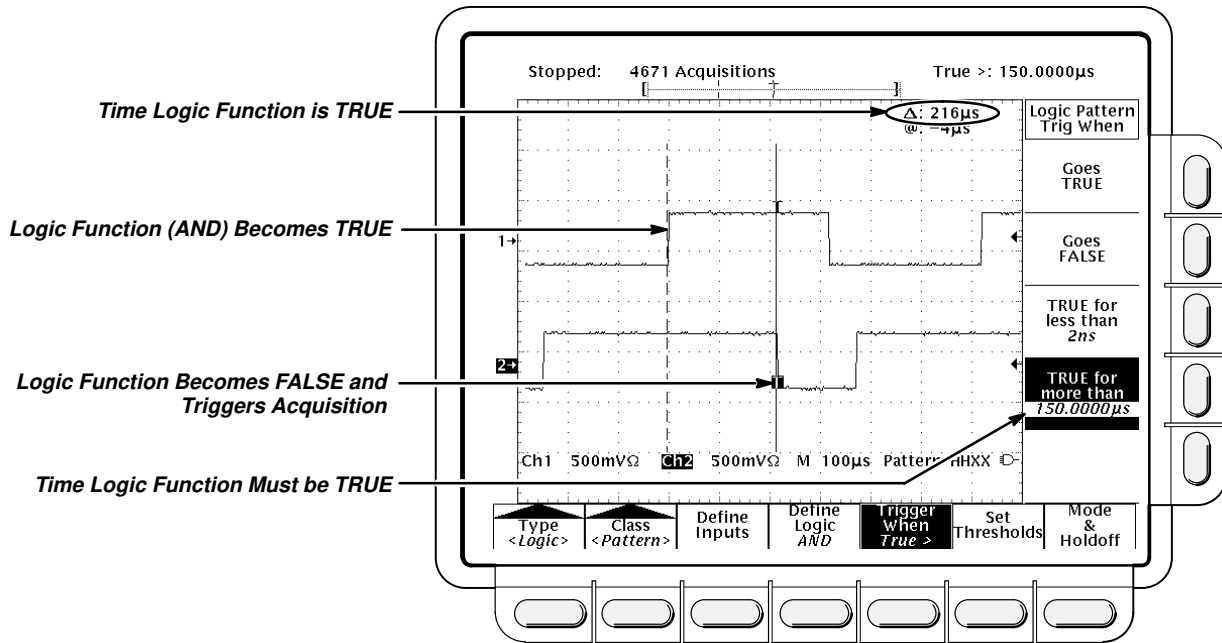

Figure 3-28: Logic Trigger Menu—Time Qualified TRUE
Note the position of the trigger indicator in Figure 3-28. Triggering occurs at the point the logic function you specify is determined to be true within the time you specify. The digitizing oscilloscope determines the trigger point in the following manner:
In Figure 3-28, the delay between the vertical bar cursors is the time the logic function is TRUE. Since this time is more (216  $\mu$ s) than that set in the **True for more than** menu item (150  $\mu$ s), the oscilloscope issues the trigger at that point, not at the point at which it has been true for 216  $\mu$ s.